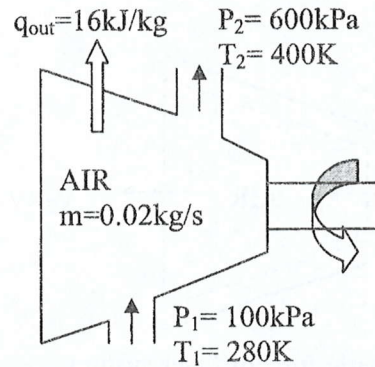

Figure 2: Schematic for a compressor system
- (c) Air at 100kPa and 280K is compressed steadily to 600kPa and 400K. The mass flow rate of the air is 0.02 kg/s, and a heat loss of 16kJ/kg occurs during the process (refer Figure 2).